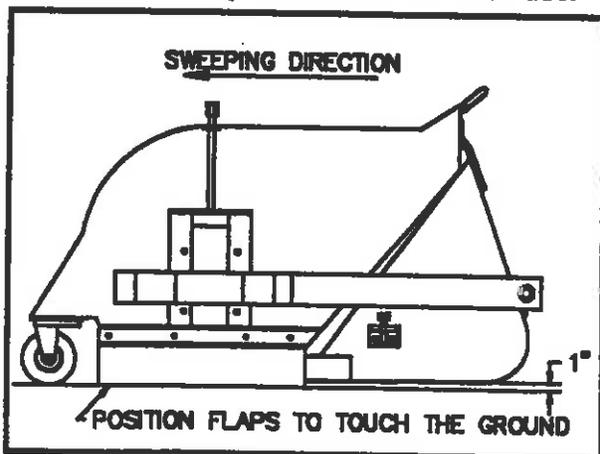

Figure 5
4. Adjust front and side flap up or down as necessary to contact sweeping surface. (See figure 5)